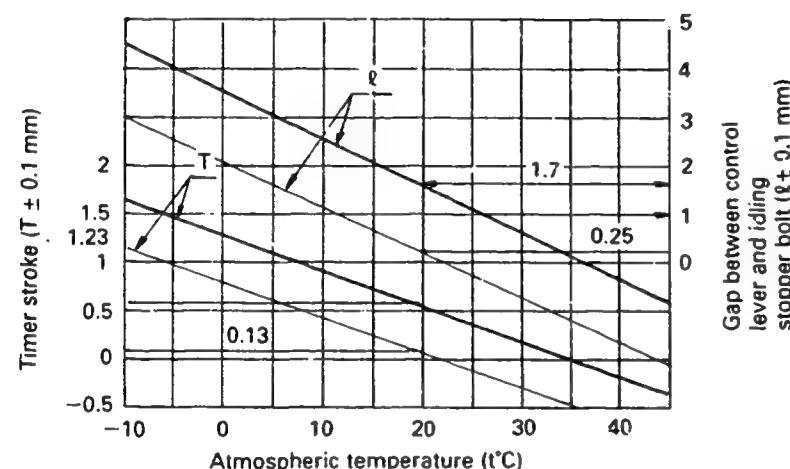

Fig. 2
Formula for calculating Fig. 2
1. Calculate the block gauge dimension $l \pm 0.05$ mm from Fig. 2 according to the atmospheric temperature at the time of adjustment.
2. Insert the block gauge (thickness gauge) selected in Step (1) above between the bracket and the idling stopper bolt.